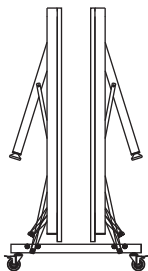
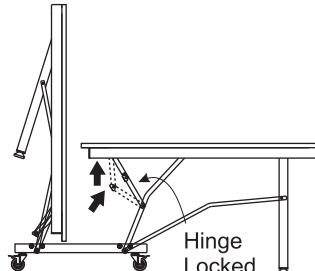
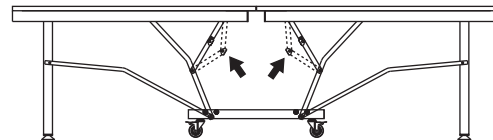

Figure 1
Figure 3
Figure 4
- After correctly assembling both Table Tops, your table can safely be moved from storage mode (Figure 1) to the play-back (Figure 3) or normal (Figure 4) play position.
- For your safety, lock wheels once you have reached the desired storage or play area. Keep wheels locked until you move the table again. To properly install net, the table will need to be moved into playing position as shown in Fig. 4.